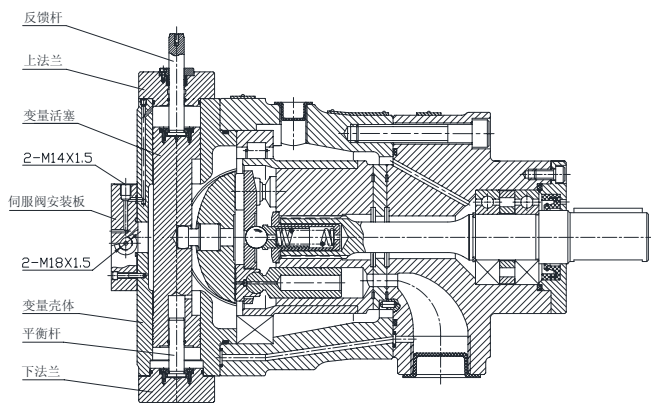

Figure 7 ZCY14-1B Type (Hydraulic control Variable Displacement) Axial Pistion Pump
4.7 ZCY14-1B Type (Hydraulic control Variable Displacement) Axial Pistion Pump (Figure 7)